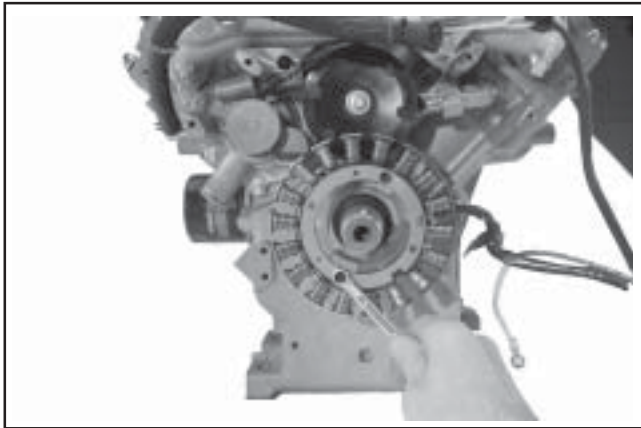

Figure 9-40. Removing Stator Screws.
1. Remove the two mounting screws, and pull the stator, with the plug-in connector attached, from the engine. See Figure 9-40.